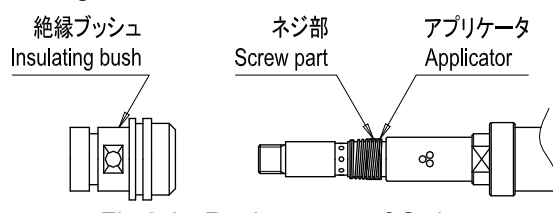

Fig.3.25 Replacement of O-ring
- (9) When the screws (M5×20) fixing the torch are loose, the torch tip position will be off. Tighten the screws using the proper torque value. (See the pages 17, 18, 26 and 31.)
- (10) When replacing the O-ring of liquid-cooled torch, take enough care not to hurt the O-ring inside the insulating bush by the screw part of tip body. (Refer to Fig.3.25)
- (When mount the insulating bush, use the applicator (Refer to Fig.3.25). The applicator is attached component of liquid-cooled torch.)